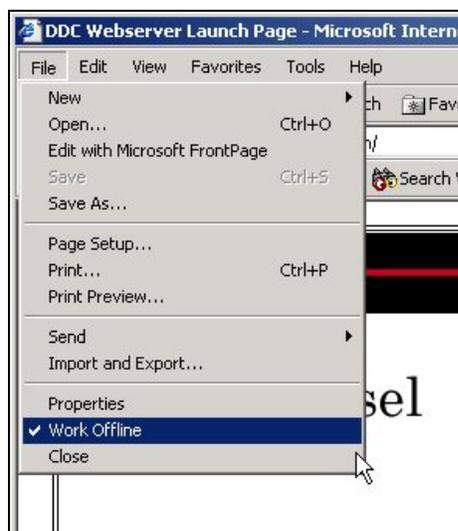

Figure 3
2. If you cannot open the page displayed above, in Internet Explorer click on “File” and make certain the “Work Offline” option is not enabled. If there is a check mark next to “Work Offline”, simply click on the “Work Offline” option one time to disable it (Figure 3).